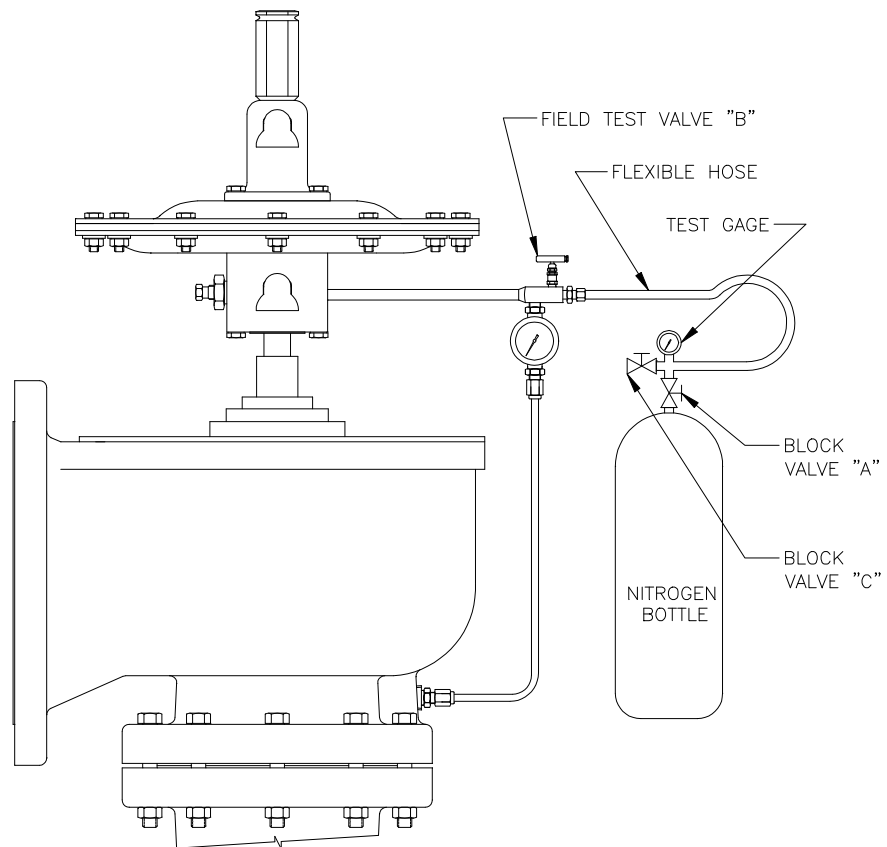

FIGURE 9
The pilot set pressure can be checked in the field by applying an external test pressure to the pilot through the Field Test Hand Valve as shown in Figure 9.
- A. Connect test gas bottle as shown in FIGURE 9.